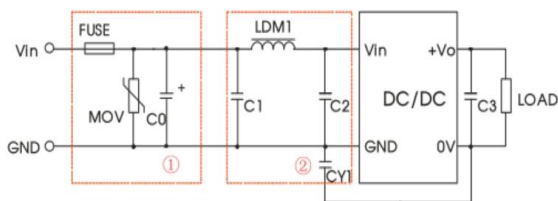

Fig. 3
RE	CISPR32/EN55032 CLASS B (see Fig.3-② for recommended circuit)
EFT	IEC/EN61000-4-4 ±2kV (see Fig.3-① for recommended circuit) perf. Criteria B
Surge	IEC/EN61000-4-5 line to line ±2kV (see Fig.3-① for recommended circuit) perf. Criteria B
Notes: We use Part ① in Fig. 3 for Immunity and part ② for emissions test. Selecting based on needs.